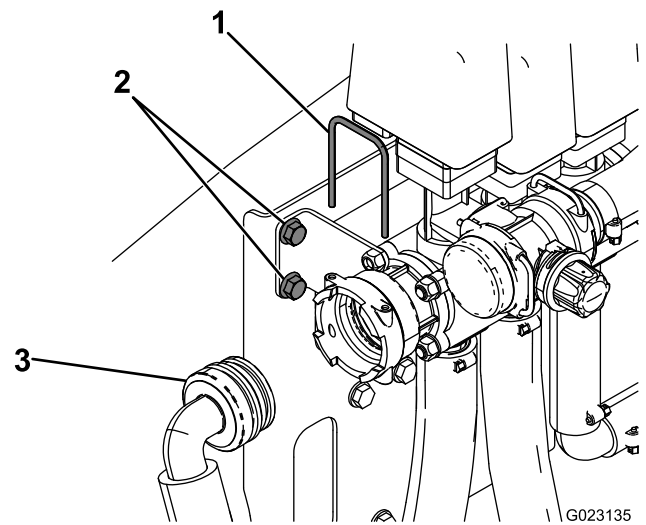

Figure 20
2. Remove the 2 bolts securing the small bracket to the frame (Figure 20).
1. Remove the retaining fork securing the pressure hose to the side of the agitation valve (Figure 20), and set the hose and the fork aside.